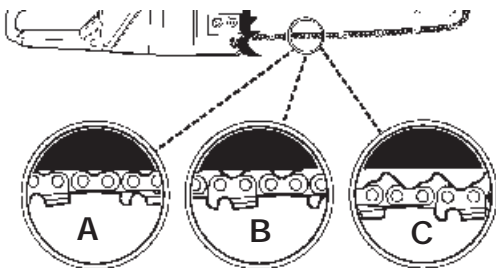

Fig. 29
CAUTION: If saw chain is TOO LOOSE or TOO TIGHT, the sprocket, bar, chain, and crankshaft bearings will wear more rapidly. Study Fig. 29 for information concerning correct cold tension (A), correct warm tension (B), and as a guide for when saw chain needs adjustment (C).